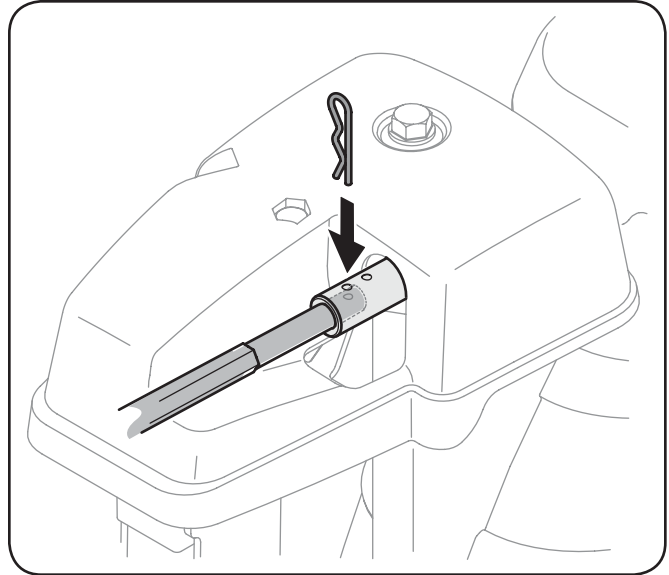

Figure 6-7
2. Pull out the chute control rod until the hole in it lines up with the second hole in the chute rotation assembly. See Fig. 6-7.
3. Reinsert the hairpin clip through this hole and the chute control rod. See Fig. 6-7.